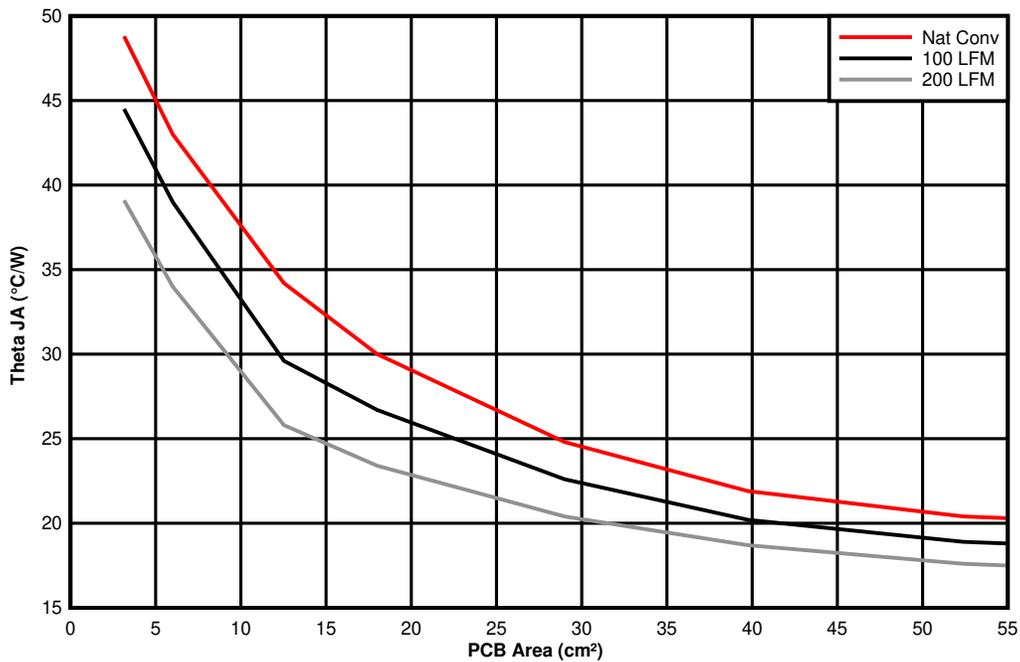

图 10-5. θ_{JA} Versus PCB Area
The amount of PCB copper as well as airflow affects the thermal performance of the device. 图 10-5 shows the effects of copper area and airflow on the junction-to-ambient thermal resistance ($R_{\theta JA}$) of the TPSM560R6H. The junction-to-ambient thermal resistance versus PCB area is plotted for a 4-layer PCB.
3. Reference 图 10-5 to determine the minimum required PCB area for the application conditions.